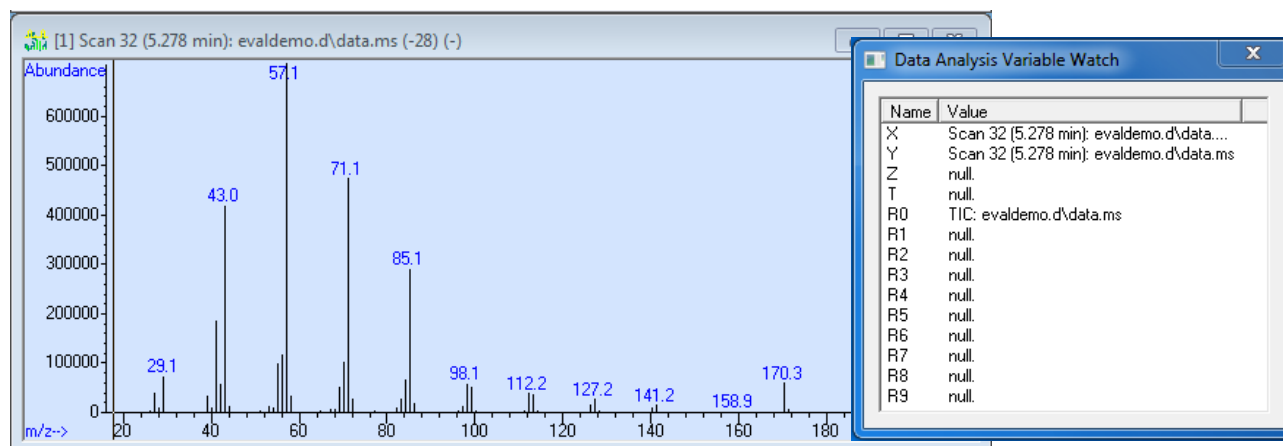

Figure 38 Subtracted spectrum for Dodecane
- 2 Select the **Subtract** button, . The difference (Y - X) will be displayed as a spectrum labeled with a [-] following its title. See Figure 38.
Examination of the spectrum for Dodecane in Figure 38 on page 81 shows that Dodecane (mw = 170) molecular ion of 170 is present and will be used as the target ion. The 85 ion at half the mw of Dodecane is also significant and will be used as the qualifier ion.
- 1 Select a spectrum to search (**X** in **Data Analysis Variable Watch** window). See Figure 38 on page 81.